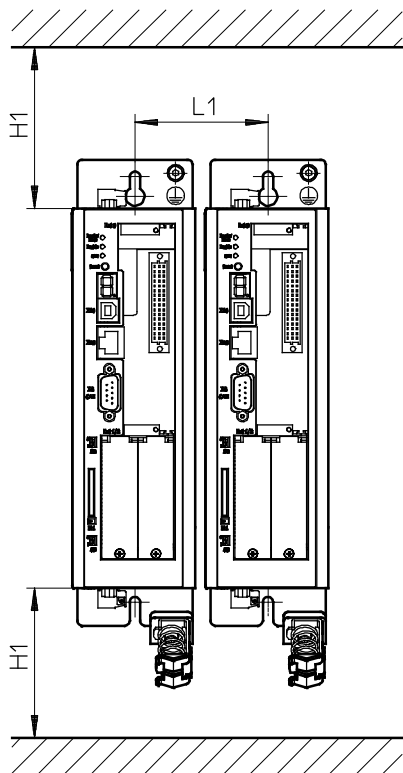

Fig. 3.4 Motor controller CMMP-AS-...-M3: Mounting distance and installation clearance
- The motor controllers of the CMMP-AS-...-M3 family are designed so that they can be mounted on a heat-dissipating mounting plate if used as intended and installed correctly. We wish to point out that excessive heating can lead to premature aging and/or damage to the device. With high thermal stress on the motor controller CMMP-AS-...-M3, a mounting distance (➔ Fig. 3.4) is recommended!